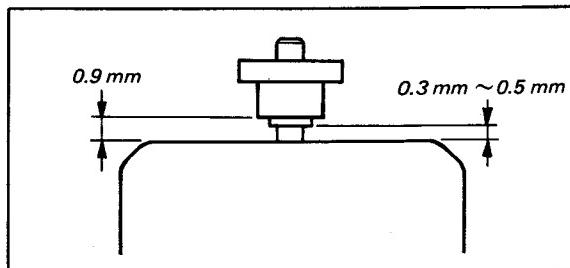

*Fig. 7-22*
2. Remove the front control panel by removing four screws shown in Fig. 7-22.